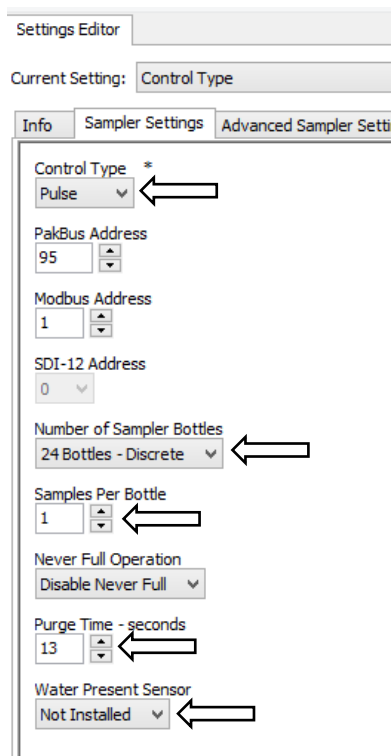

FIGURE 8-17. Pulse Control settings
1. Once connected to the VSC100, click the **Sampler Settings** tab (FIGURE 8-17).